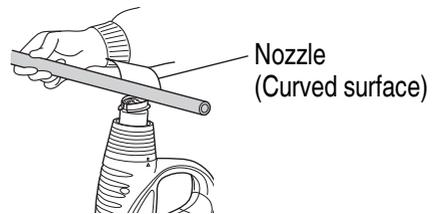

Fig. 8
4. Forming resin pipes (Fig. 8)